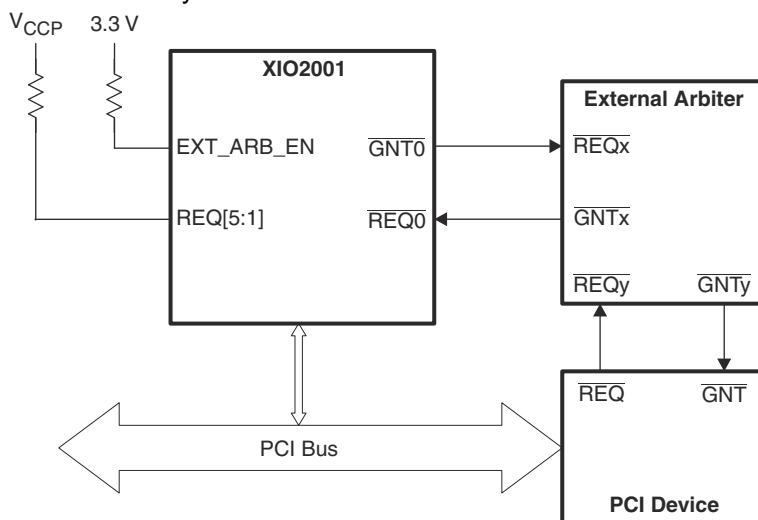

Figure 9-3. External Arbiter Connections
- The XIO2001 supports an external PCI bus arbiter. When $\overline{\text{PERST}}$ is deasserted, the logic state of the EXT_ARB_EN pin is checked. If an external arbiter is required, EXT_ARB_EN is connected to V_{DD_33} . When connecting the XIO2001 to an external arbiter, the external arbiter's REQ signal is connected to the XIO2001 0 $\overline{\text{GNT}}$ output terminal. Likewise, the $\overline{\text{GNT}}$ signal from the external arbiter is connected to the XIO2001 0 REQ input pin. Unused REQ signals on the XIO2001 should be tied together and connected to V_{CCP} through a pull-up resistor. When in external arbiter mode, all internal XIO2001 port arbitration features are disabled. Figure 9-3 illustrates the connectivity of an external arbiter.